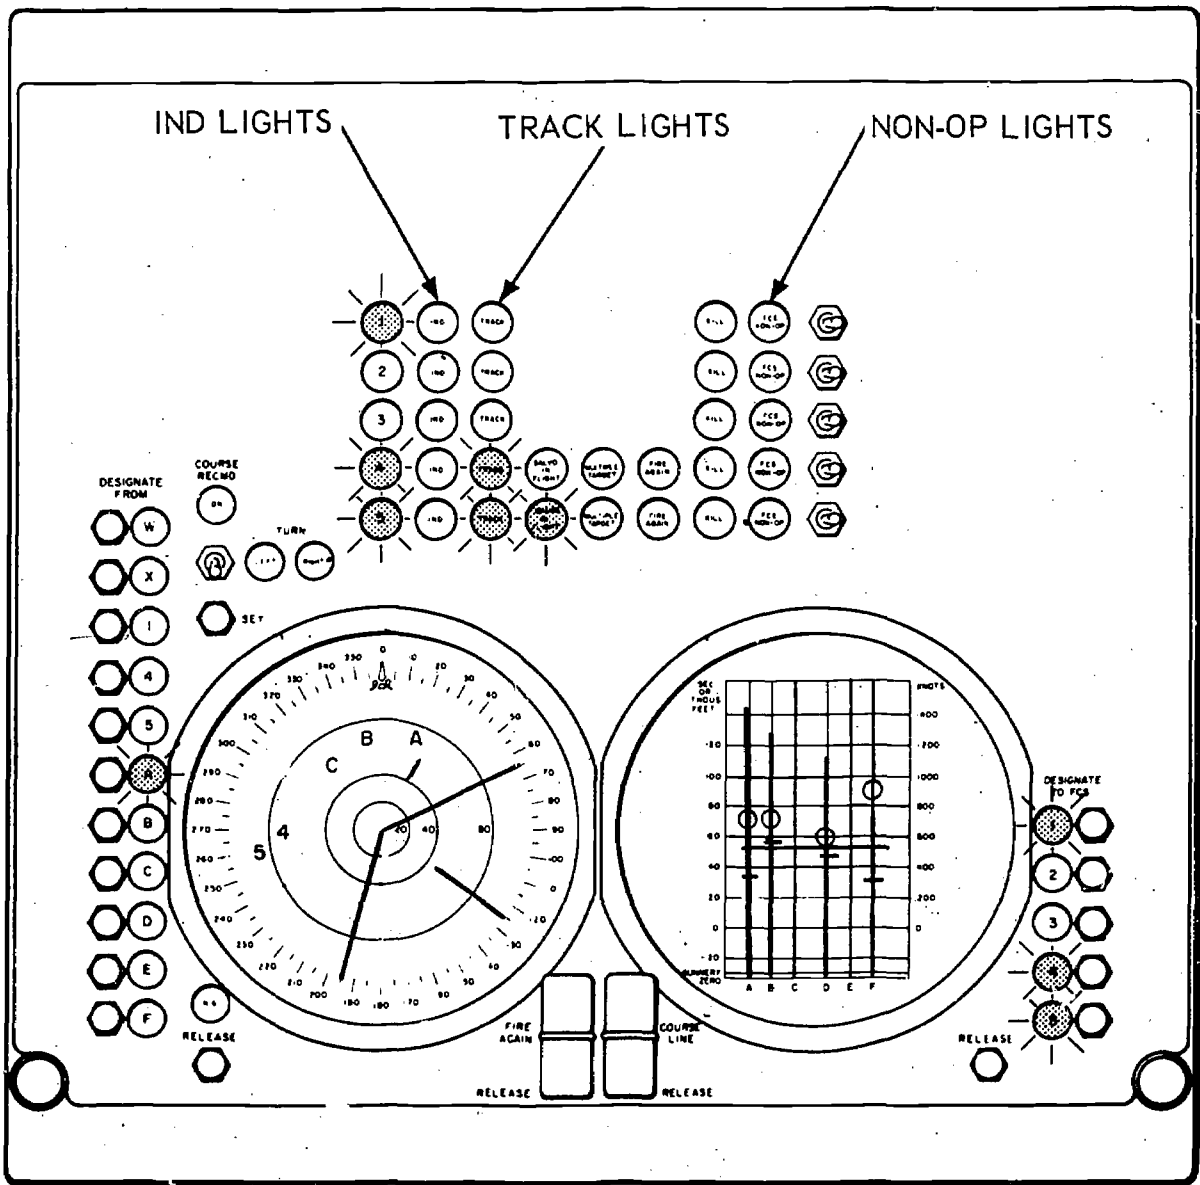

Figure 9-6.—Panel face of Director Assignment Console (DAC).
**Director Assignment Console (DAC).**—The Director Assignment Console (fig. 9-6) is located in the Weapons Control Station and is used to display target fire control information. Despite the console's name, its primary purpose is to assign a missile or gun fire control system rather than only a director to a particular target. The console contains two cathode-ray tube displays (fig. 9-6). The tube on the left shows the bearing and range of each target being tracked by the target selection and tracking console operators. Pushbutton controls are used by the console operator to assign fire control systems to targets and for releasing the systems after the targets are destroyed or if some other target becomes more threatening. Indicator lamps show the status of the fire control systems. For example, the track light shows that a fire control system is already tracking target A; the FCS NON-OP light indicates that its associated fire control system has a casualty in it and is therefore inoperative; the IND light indicates that some other designation source, such as a Target Designation Transmitter, is designating to a fire control system.
The multipurpose display on the right of the panel face (fig. 9-6) shows the target elevation and speed of any targets that are in tracking channels. This target information is determined by the tracking channel computers in the WDE target data storage unit (fig. 9-1). The DAC operator can tell from the information displayed on the multipurpose plot (vertical line) how much time he has to assign a fire control director to a target before the target reaches a range at which it can release its weapons. He can also determine from the display how long a fire control system will be busy tracking a target and guiding a missile to it (horizontal line).